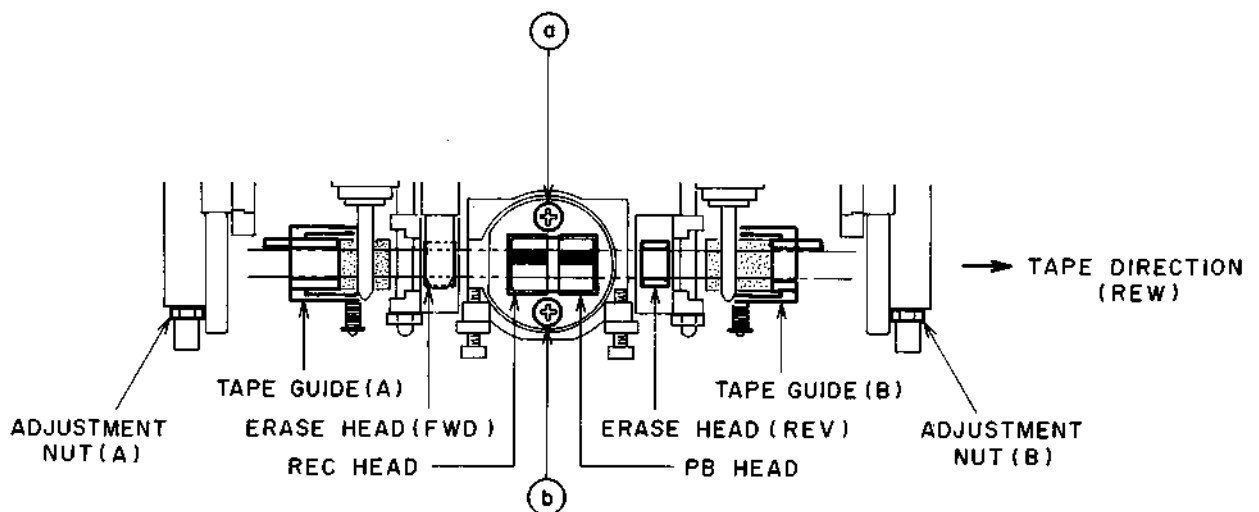

Fig. 6-1
6-1-2 When only Erase Head was replaced (Refer to Figs. 6-1 and 6-2)
6-3 HEAD HEIGHT ADJUSTMENT (Refer to Figs. 6-1 & 6-2)
- 3) If the difference is more than ± 0.5 dBm in item 2), adjust the erase heads by turning both Erase Head Height Adjustment screws ⑦ & ⑧ in the same direction by $1/4$ turn (± 0.1 mm), so that difference is within ± 0.5 dBm.
- 4) The Head Height Adjustment is necessary if still the difference could not be corrected by above adjustment. It can be done by changing the Head Height Adjustment Spacers ⑨ & ⑩ (The thicknesses of these spacers are ⑨ = 0.45 mm, ⑩ = 0.35 mm). Loosen the screws ⑪ & ⑫ for the spacer replacement. If the level is lower in REV mode, it means that the head is too high, therefore replace the spacers by thinner ones. When the level is higher in REV mode, replace them by thicker ones. After the replacement of those spacers, do the same adjustment in item 1) and check the level of LINE OUT is -5.5 dBm ± 0.5 dBm. For the further confirmation, playback a 4 Track head Height Adjustment Tape (1 kHz/4 Track, AT-750775). Line Output level of both channels should be more than -8 dBm and the difference in level between FWD and REV modes should be within ± 1 dB. Otherwise do the fine adjustment in the same manner as item 3) & 4).
- 5) When the head replacement is necessary, loosen only the screws ⑬ & ⑭ in Fig. 6-1 for easy replacement.
6-1 TAPE GUIDE HEIGHT ADJUSTMENT (Refer to Figs. 6-1 and 6-2)